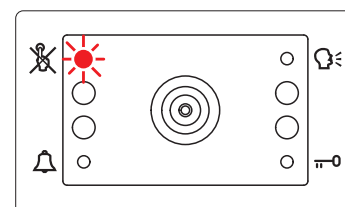

Fig. 4 Calling a busy indoor station
- If the called indoor station is busy the  red LED flashes (**Fig. 4**) 4 times quickly and the unit emits a deep tone on each flash.